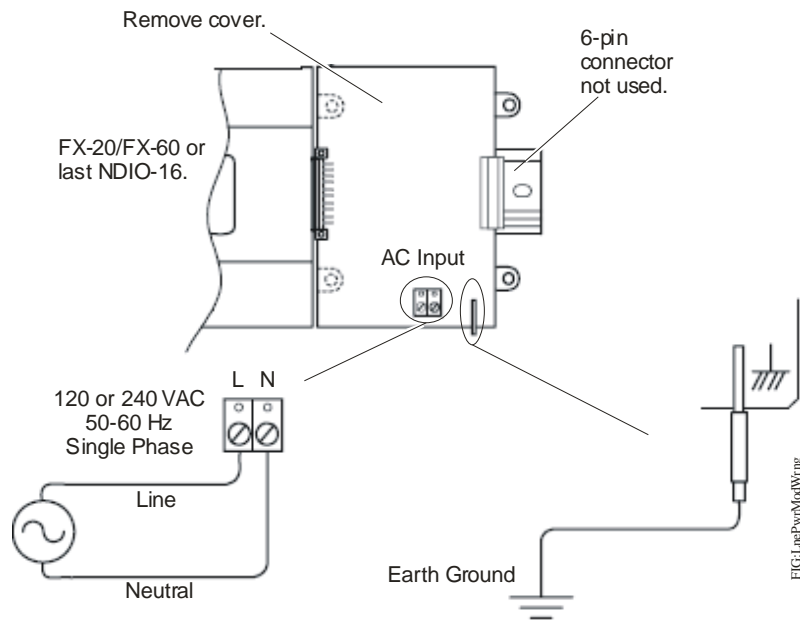

Figure 8: LP-FXPM263-0 Line Voltage Power Module Wiring Connections
To wire the DIN rail mount line voltage power module, see Figure 8 and follow these instructions:
3. Connect the supplied earth grounding wire to a nearby grounding point (see Figure 8).